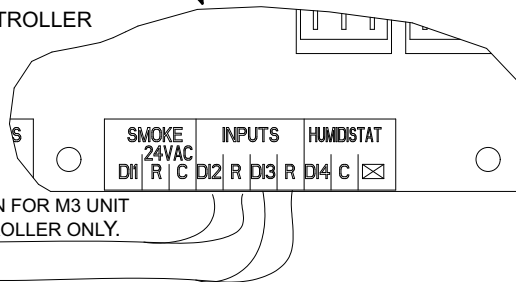

FIGURE 6
- 4- Connect wire harness to Unit Controller terminals DI-3 and R as shown in figure 6.